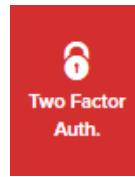

Figure 11. Partner Portal (Two Factor Auth. icon)
4. Click the **Two Factor Auth.** link on the left-hand side of the web page (Figure 11 \(page 54\)).